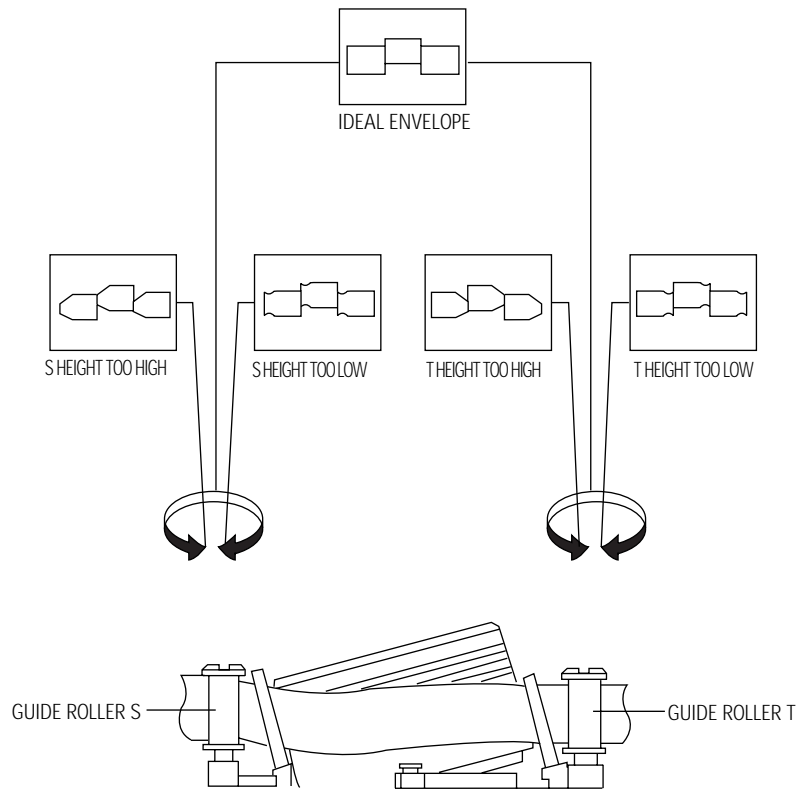

Fig. 6-13 Guide Roller S, T Height Adjustment
- 8) Turn the guide roller heads with a flat head (  ) driver to obtain a flat video RF envelope as shown in Fig. 6-13.